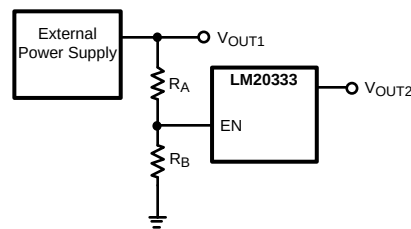

Figure 6. Sequencing LM20333 with Precision Enable
The LM20333 has an internal under-voltage lockout protection circuit that keeps the device from switching until the input voltage reaches 4.25V (typical). The UVLO threshold has 350 mV of hysteresis that keeps the device from responding to power-on glitches during start up. If desired the turn-on point of the supply can be changed by using the precision enable pin and a resistor divider network connected to V_{IN} as shown in Figure 6 in the design guide.
The precision enable (EN) and power good (PGOOD) pins of the LM20333 can be used to address many sequencing requirements. The turn-on of the LM20333 can be controlled with the precision enable pin by using two external resistors as shown in Figure 6 .